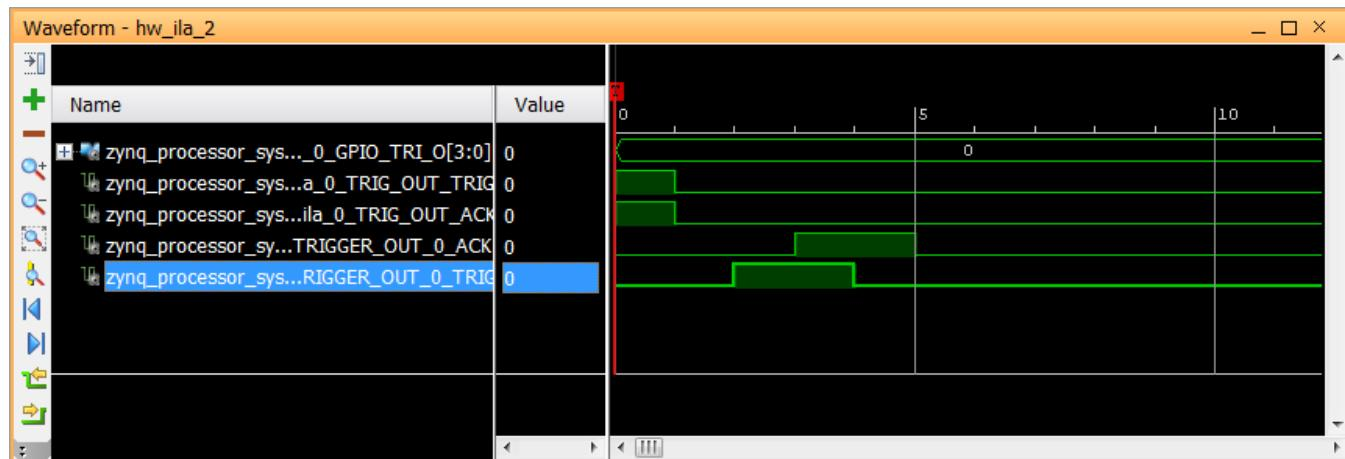

Figure 96: Waveform Demonstrating PS to PL Trigger
8. Select the hw_il_1 tab again and click the **Run Trigger Immediate** button . This triggers the hw_il_2 and the waveform window looks like Figure 96.